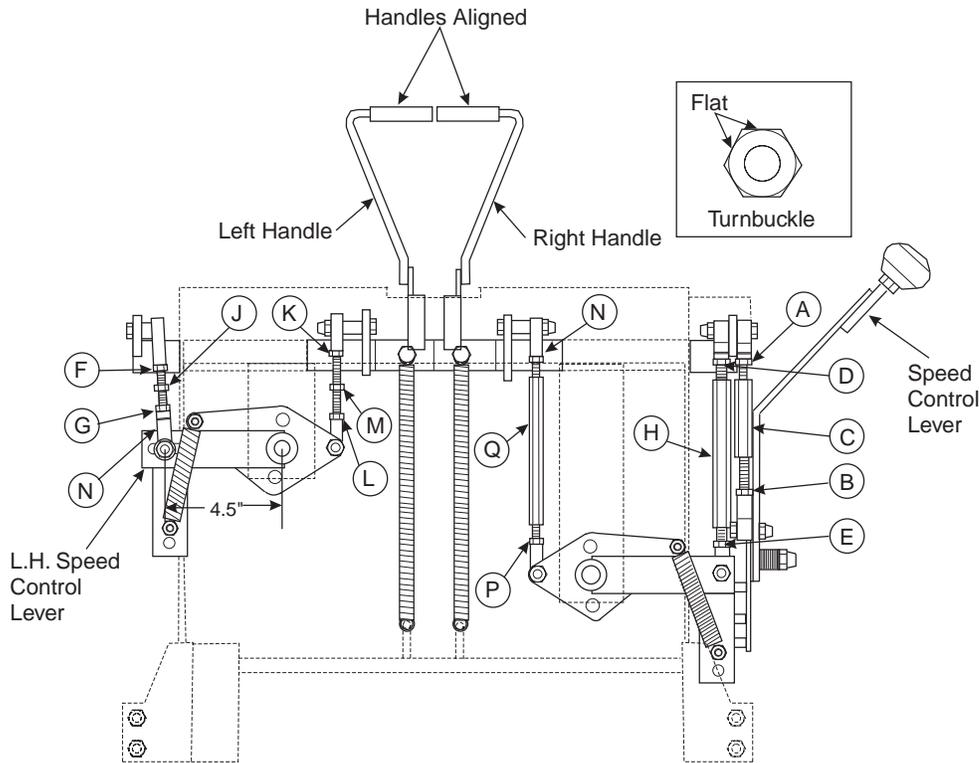

Figure 6-6 Neutral and Tracking Adjustments
- A. Loosen both jam nuts (A & B, Figure 6-6) on the adjusting rod (C).
1. Locate the left hand speed control lever. Using a ruler, check the distance between the ball joint and the center of the pivot point of the lever (Figure 6-6). The dimension must be 4-1/2 inches or be in the center of the slot. If correct, proceed to step 2. If incorrect, loosen the lock nut securing the ball joint to the lever and relocate the ball joint to the correct position.
2. Loosen the two jam nuts (D & E, Figure 6-6) on the right side neutral linkage and the two jam nuts (F & G) on left side neutral linkage.
4. SLOWLY rotate the turnbuckle (H, Figure 6-6) on the right side until the mower starts to creep forward. When the mower starts to creep forward, stop the movement and turn the turnbuckle back 1/2 turn or three flats (Figure 6-6).
6. SLOWLY rotate the turnbuckle (J, Figure 6-6) on the left side until the mower starts to creep forward. When the mower starts to creep forward, stop the movement and turn the turnbuckle back 1/2 turn or three flats (Figure 6-6).
7. Tighten jam nuts (F & G) on the left side and remaining jam nut (D) on the right side.
- B. To get both wheels to come out of neutral at the same time, adjust the left neutral turnbuckle (J, Figure 6-6). Adjust as follows:
- 1) If the mower pulls to the left, loosen both jam nuts (F & G) and lengthen turnbuckle (J). Tighten the jam nuts and drive the mower forward. Repeat this procedure until both wheels start to turn at the same time.
- 2) If the mower pulls to the right, loosen both jam nuts (F & G) and shorten turnbuckle (J). Tighten the jam nuts and drive the mower forward. Repeat this procedure until both wheels start to turn at the same time.
1. If at full speed the mower pulls right, it is an indication that the left wheel is turning too fast. To adjust this condition, loosen the lock nut securing the swivel joint (N, Figure 6-6) to the left hand control lever. Move the linkage outward in the slot. This will lengthen the control arm and cause it to stroke the pump less, slowing down the left wheel.
2. If at full speed the mower pulls to the left, it is an indication that the left wheel is turning too slow. To adjust this condition, loosen the locknut securing the swivel joint (N) to the left hand control lever. Move the linkage inward in the slot. This will shorten the control arm and cause it to stroke the pump more, speeding up the left wheel.
5. Loosen the two jam nuts (K & L, Figure 6-6) on the left control linkage. Turn the turnbuckle (M) until a gap of 3/4 inches is obtained between the handle and the frame. Tighten the two jam nuts (K & L).
6. Loosen the two jam nuts (N & P) on the right control linkage. Turn the turnbuckle (Q) until the right handle is in line with the left handle (Figure 6-6). Tighten the two jam nuts (N & P).